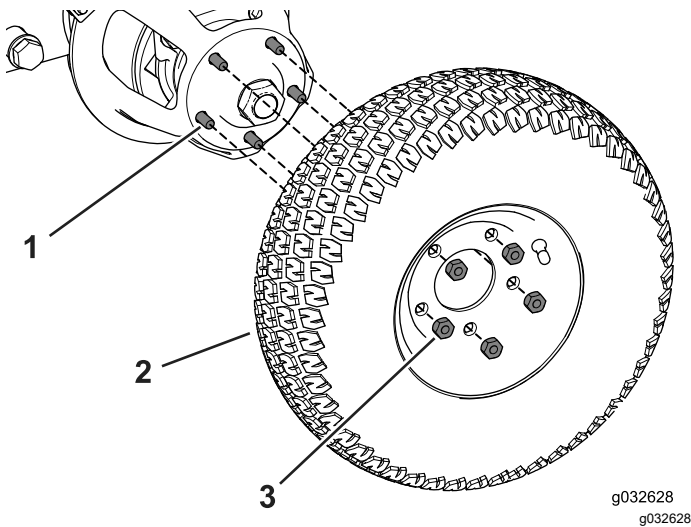

Figure 83
1. Install the wheel onto the hub (Figure 83).
2. Use the lug nuts to secure the wheels to the frame (Figure 83).